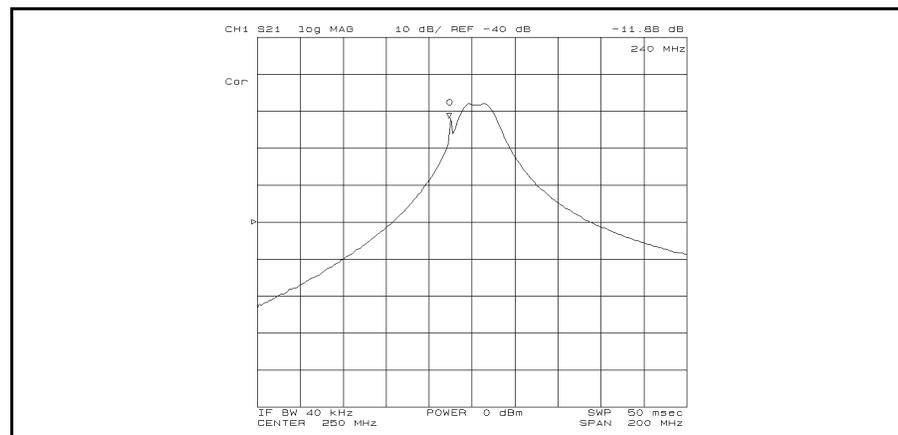

Figure 4-9.
2. Press **[Search]** PEAK to put the marker on an unknown peak of the trace. The transmission measurement result is displayed as shown in Figure 4-9.